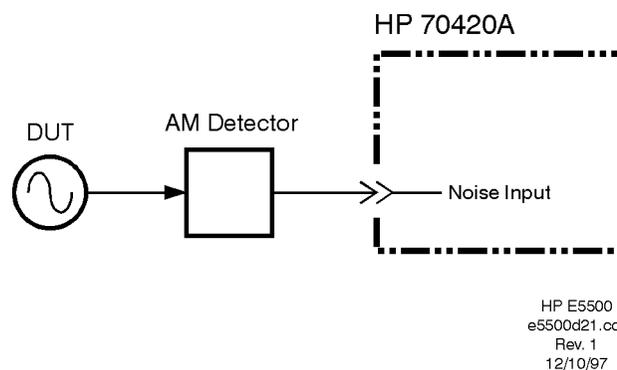

Figure 12-6 *User Entry of Phase Detector Constant AM Noise Measurement Setup Method 1, Example 1*
1. Connect circuit as shown in Figure 12-6, and tighten all connections. If the Agilent/HP 70420A Option 001 or Agilent/HP 70427A is available, use one of the connection diagrams described in “AM Noise Measurement Block Diagrams” on page 12-3.